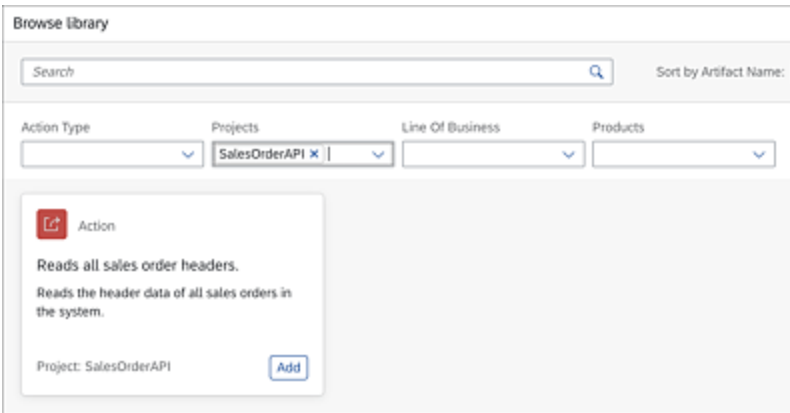

Figure 18.68 Selecting and Adding the API
- Now go to your process, and click on the + icon where you want to add this action. From the menu, select **Actions**, and click **Browse**. Search for your action project, and you can see that the action is now listed. Click **Add**, as shown in Figure 18.68.